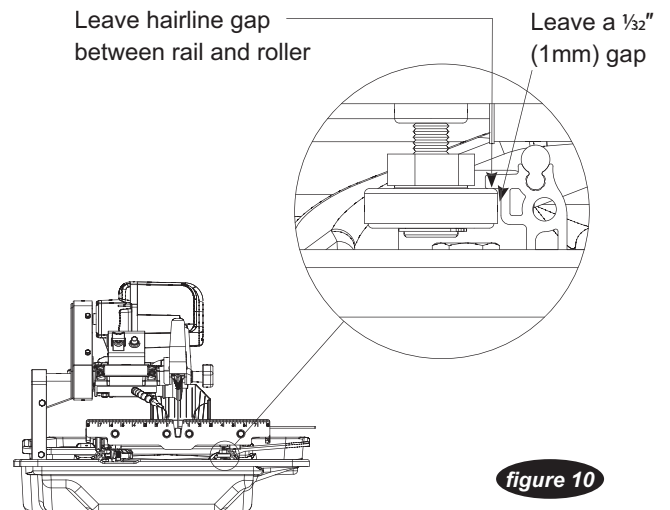

figure 10
7. Adjust the right guide rail so that the horizontal rollers underneath the table engage the rail as shown in **figure 10**. In most cases the rollers will not have to be vertically adjusted. Spacing between rails must be equidistant at all points to ensure that they are parallel. Once adjustments are made, lightly tighten the fasteners on the right rail and move the table back and forth. If the table binds against the rail at any point, adjust spacing accordingly until the table moves smoothly.
4. After adding shim(s), mount the table onto the guide rails by reversing the instructions in step 2. Move the rails toward each other to engage the horizontal rollers to the right guide rail as shown in **figure 10**. Realign the table to the blade using method 1. Check to see if any shifting persists. A shift tolerance of 0.008" (0.2mm) is allowed. A shift in excess of that will require further adjustment—repeat step 3.
4. Restore the horizontal rollers to their original positions as shown in **figure 10** by reversing the instructions in step 1. Be sure to tighten the lock nuts and replace the rubber caps.